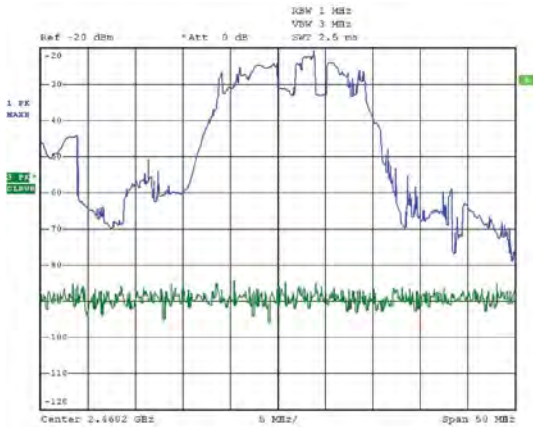
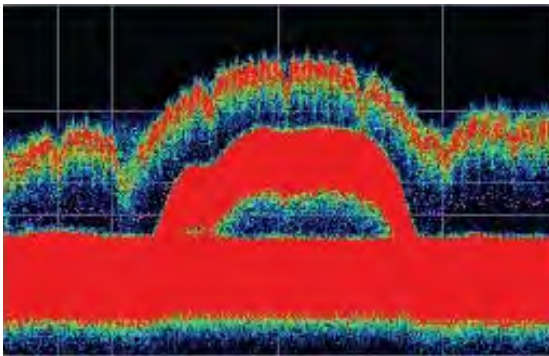

Figure 2: Traditional swept spectrum analyzer
Figure 3: DPX display
Compare the display of a Figure 2 on page 62 and that of a real-time signal analyzer with a Figure 3 on page 62. The signal captured is a typical WLAN interchange between a nearby PC and a more-distant network access point (AP). The laptop signal is nearly 30 dB stronger than the AP's signal because it is closer to the measuring antenna.
The Figure 2 on page 62 uses line traces that can show only one level for each frequency point, representing the largest, the smallest or the average power. After many sweeps, the Max Hold trace shows a rough envelope of the stronger laptop signal. +Peak detection was selected for the other trace in an attempt to capture the weaker but more frequent AP signal, but the bursts are very brief, so the likelihood of seeing one in any particular sweep is small. It will also take a long time to statistically capture the entire spectrum of a bursted signal due to the architecture of the swept spectrum analysis.
The Figure 3 on page 62, reveals much more insight on the same signal. Since it is a bitmap image instead of a line trace, you can distinguish many different signals occurring within each update period and/or different version of the same signal varying over time. The heavy band running straight across the lower third of the graph is the noise background when neither the laptop nor the AP is transmitting. The red lump of energy in the middle is the ON shape of the AP signal. Finally, the more delicate spectrum above the others is the laptop transmissions. In the color scheme used for this demonstration ("Temperature"), the hot red color indicates a signal that is much more frequent than signals shown in cooler colors. The laptop signal, in yellow, green and blue, has higher amplitude but doesn't occur nearly as often as the AP transmissions because the laptop was downloading a file when this screen capture was taken.